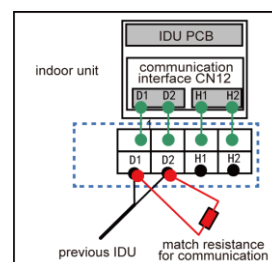

Fig. 5.3.2
- (4) Fix the communication cable with clamp of electric box.
- (5) For more reliable communication, make sure connect the terminal resistor to the most downstream IDU of the communication bus (terminal D1 and D2), as shown in fig. 5.3.2, terminal resistor is provided with each ODU.